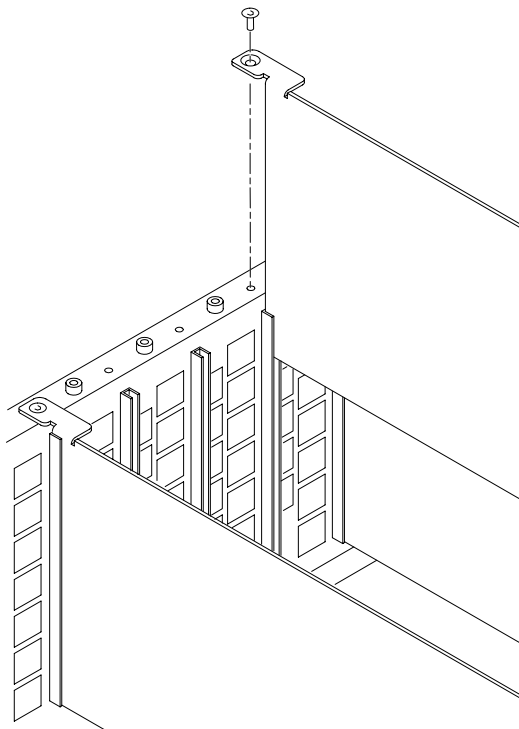

Figure C-5: Top screw
9. Refer to Figure C-5 and insert and tighten the top screw, which comes with your module, and tighten the rear panel screw.